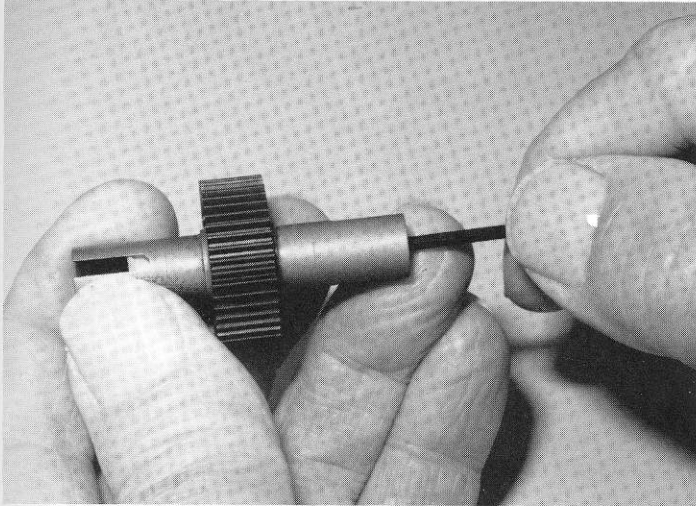

Fig. 55
□ **Figs. 55 & 56** Tighten the diff bolt using the Allen wrench, making sure that the hubs and diff drive rings stay centered. Now turn the diff assembly sideways, as shown, and tighten the diff screw until the spring collapses fully and the screw bottoms out. **DO NOT OVERTIGHTEN!** Correct adjustment is bottoming out the spring and bolt and then backing off the screw 1/8 to 1/4 of a turn.